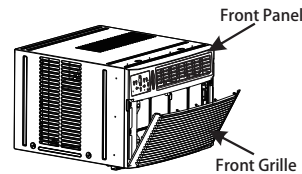

Fig. 1
1. Pull down front grille and remove filter. (See Fig.1).